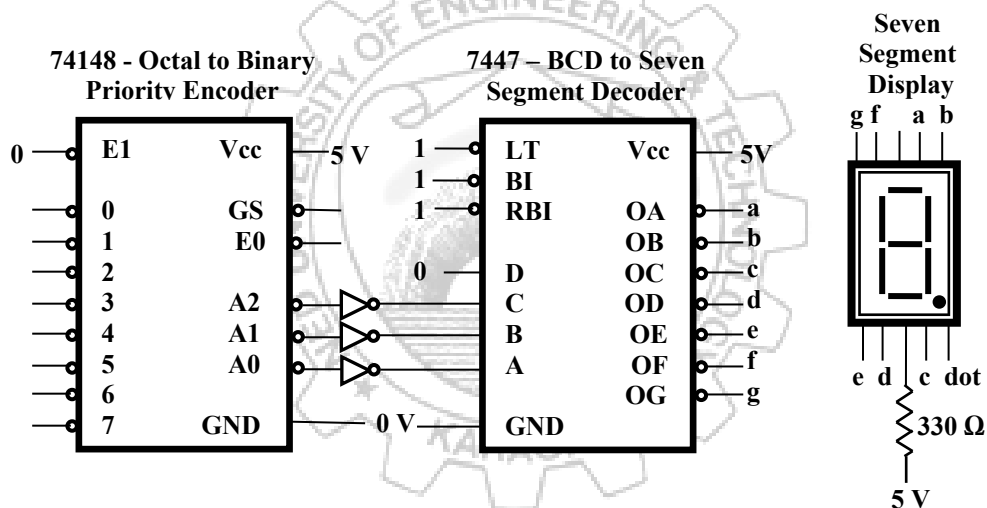

Figure 7.2: Circuit for displaying encoders output on 7-segment display
You are required to display the outputs of a 74148 encoder IC on a seven segment display. The circuit is given in figure 7.2.
- 1 Make connections as shown in figure 7.2. (refer to appendix A for IC pin configurations).